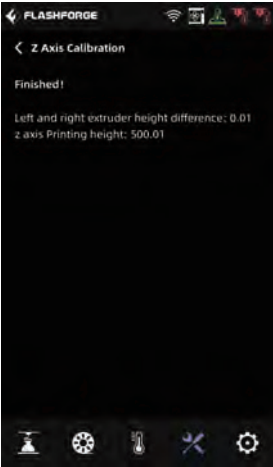
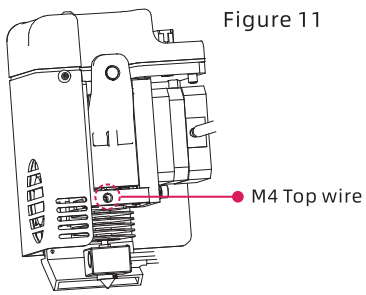
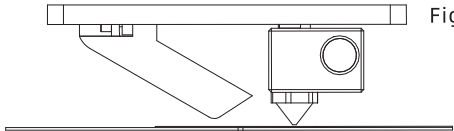

Figure 10
Figure 11
Figure 12
Step 3: Unscrew the M4 top wire Counterclockwise (indicated by an arrow in figure11) with a 2.0 Allen wrench, then the left extruder assembly will automatically fall down on the leveling card (figure12). Then tighten the M4 top wire with a 2.0 Allen wrench, now both extruder heads are at the same height, the leveling completed (Note: the height difference between two extruders should be within 0.05mm, shown as figure10. Otherwise it will reduce the successful rate of printing with 2 extruders at the same time).